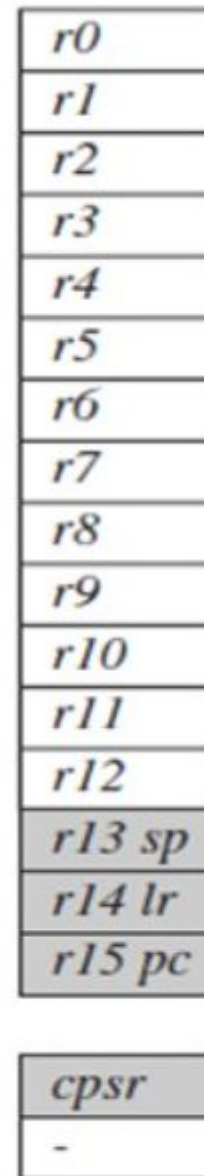

Fig 2: ARM Register in *user mode*.
- Fig 2 shows the active registers available in user mode—a protected mode normally used when executing applications.
- In Fig 2, the shaded registers identify the assigned special-purpose registers: